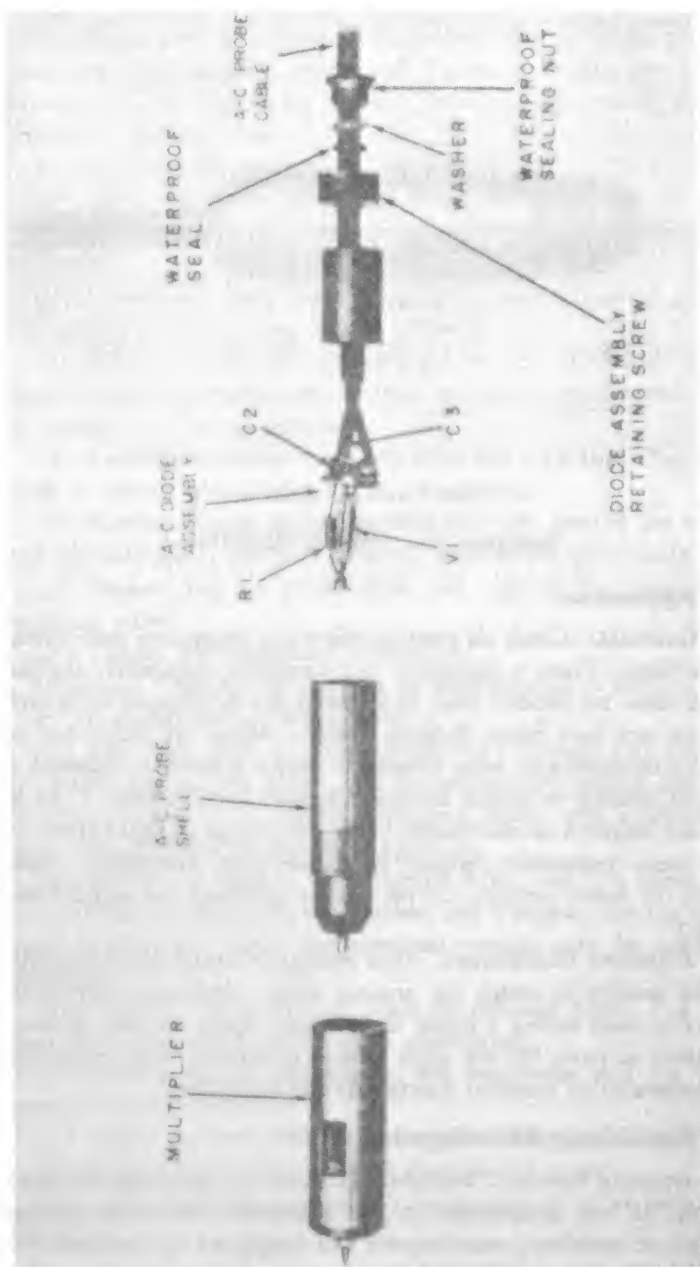

Figure 21. Exploded view of a-c probe.
(1) With one hand, grasp the diode assembly retaining screw to prevent it from turning; with the other hand, loosen the waterproof sealing nut.
(2) Loosen the diode assembly retaining screw. The a-c probe shell will separate from the rest of the assembly.
(3) Slip the waterproof sealing nut, washer, waterproof seal, diode assembly retaining screw, and insulator over the a-c probe cable (fig. 21) to permit access to the tube base.
(4) Carefully unsolder the cable from the tube base. Tag the cable leads to permit identification when resoldering.
(5) Remove a spare diode assembly from the rear of the multimeter and carefully solder the leads from the cable to the spare diode assembly.
(6) Replace the a-c probe shell and tighten the diode assembly retaining screw.
(7) Tighten the waterproof sealing nut.
(1) Repeat the steps in subparagraph b(1) through (4) above at the a-c probe end of the cable. Put the waterproof sealing nut, washer, waterproof seal, diode assembly retaining screw, and insulator on the new cable in the order shown in figure 21.
(2) Repeat the steps in subparagraph b(6) and (7) above.
(3) Remove the sealing nut, washer, and waterproof seal at the multimeter end of the cable. An open-end wrench may be used on the sealing nut.
(4) Unsolder the cable leads from the terminal board. Tag the cable leads to permit identification when resoldering.
(5) Put the sealing nut, washer, and waterproof seal (in the order named) on the new cable.
(6) Solder the new cable to the terminal board.
(7) Tighten the sealing nut with an open-end wrench.